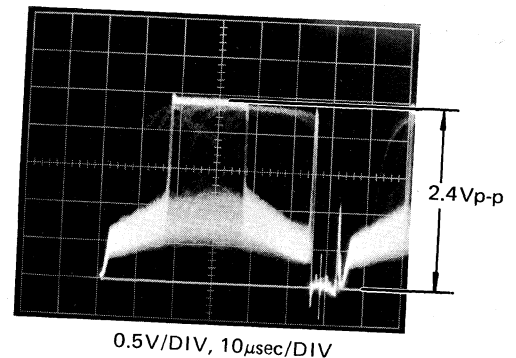

Fig. 4-2-12
- Adjust BEAM VR14 until the waveform is clipped at 2.4V p-p $\pm 0.1V$ p-p. (Fig. 4-2-12) If the signal does not increase up to 2.4 Vp-p, aim the camera at a brighter object.